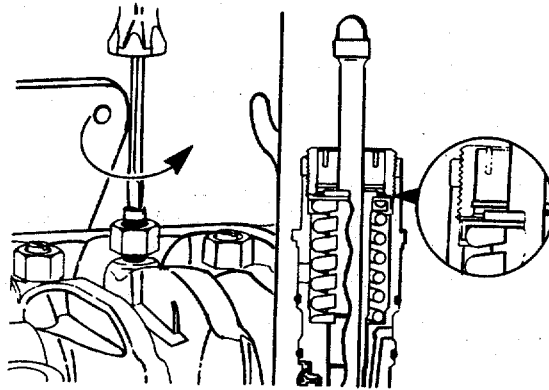

FIGURE 3-26. *Loosening Injector Adjusting Screw.*
- (c) Loosen the lock nut on the injector adjusting screw (FIGURE 3-26) on cylinder No. 3. Tighten the adjusting screw until all the clearance is removed from the injector train.
- (e) Loosen the injector adjusting screw until the injector spring retainer washer touches the top-stop screw (FIGURE 3-26).
(d) Hold the adjusting screw in this position. The adjusting screw must not turn when the locknut is tightened (refer to FIGURE 3-26). Tighten the locknut to the following value: